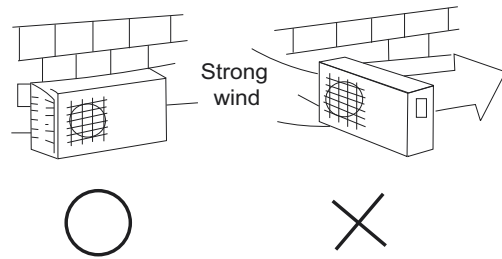

Fig. 11 – High Wind Installation
- A location which is convenient to installation and not exposed to strong wind. If unit is exposed to strong winds it is recommended that a wind baffle be used. Contact your Carrier Representative for drawings. (See Fig. 11, pg. 7)